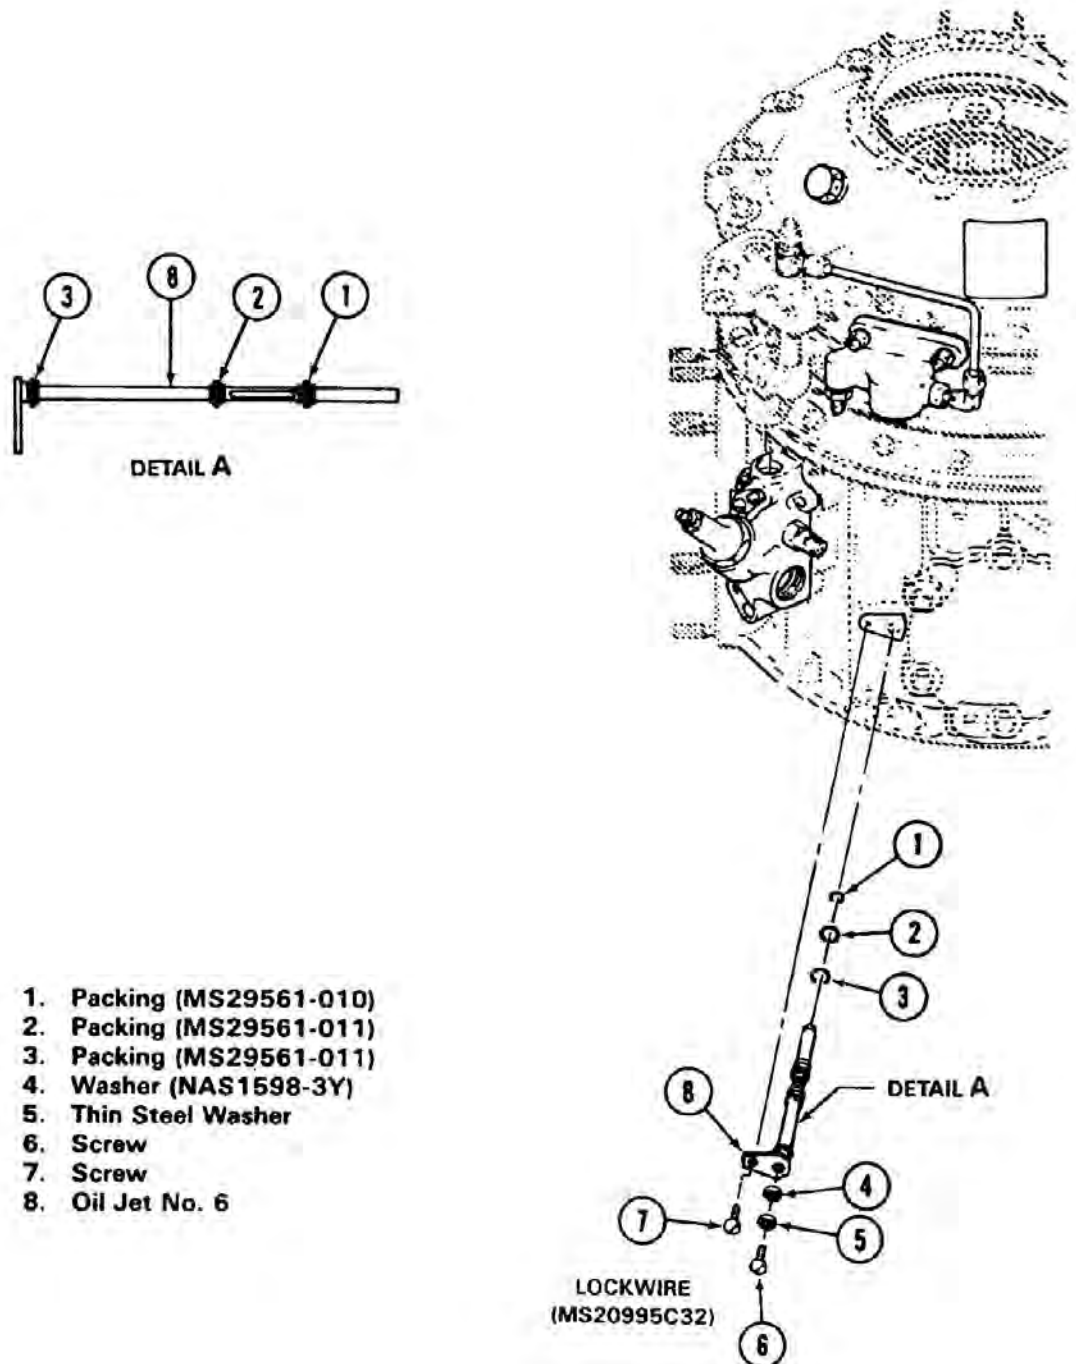

Figure 63-32. Transmission Oil Jet No. 6
63.5.16.1.1 Remove screw (7, Figure 63-32).
63.5.16.5.1 Install screw (6, Figure 63-32) with washers (4 and 5) on jet (8).